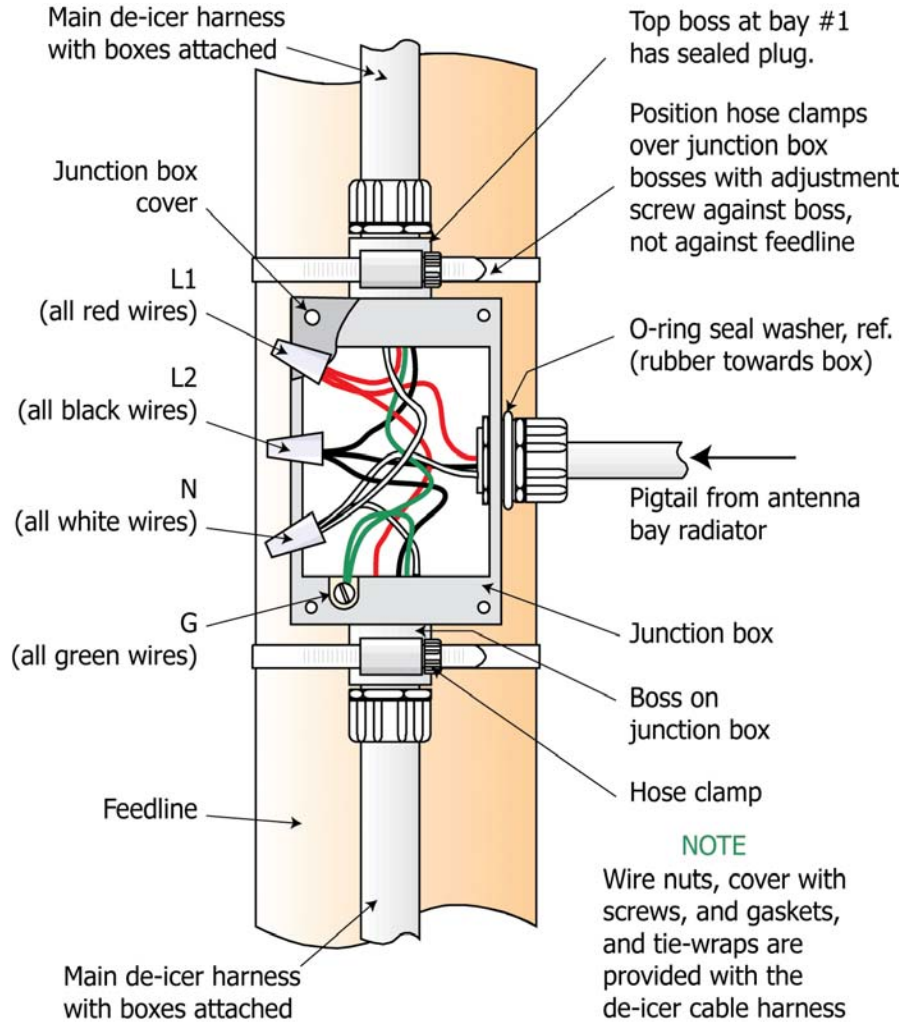

Figure 12. Bay junction box installation
- b. Connect the leads from each bay de-icer to the main harness in that bay's junction box as shown in Figure 12 on page 22. Secure any slack in these cables to the feedline with tie-wraps to avoid wind damage.